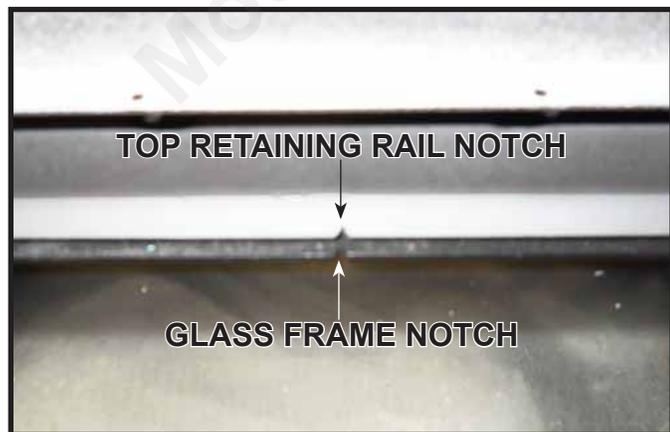

Figure 11.5. Align Notches
3. Center the fixed glass assembly from left to right inside the top of the appliance opening. Align the notch at the top center of the glass frame assembly with the notch on the top retaining rail. The glass frame has tabs on the bottom that coincide with the bottom glass clip location. The LUX36 has three tabs and the LUX42 has four tabs. If the glass is not centered, it can not be installed properly. See Figure 11.5.